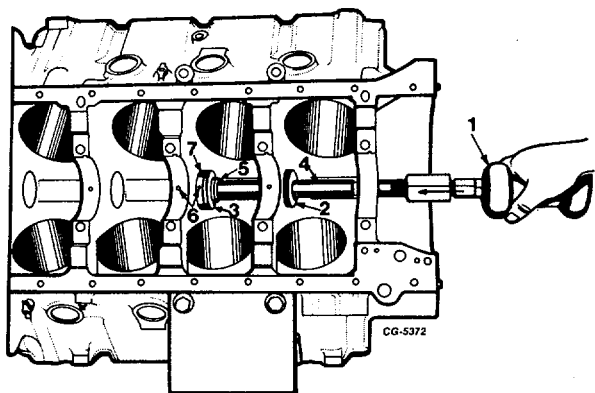

Fig. 79 Installing Third Bearing
5. Position the new bearing on the third adapter and install adapter and bar with a "C" washer in front of the adapter, Figure 79. Align the oil hole and push in the third bearing.